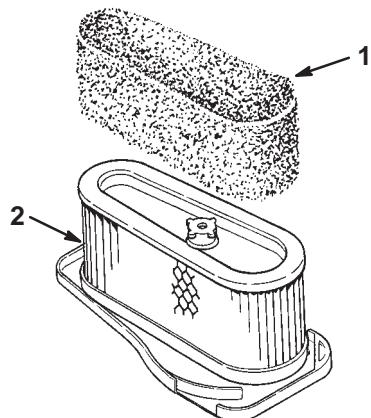

Figure 19
4. Carefully slide the foam element off of the paper element (Fig. 19).
1. Carefully slide the foam element onto the paper air cleaner element (Fig. 19).